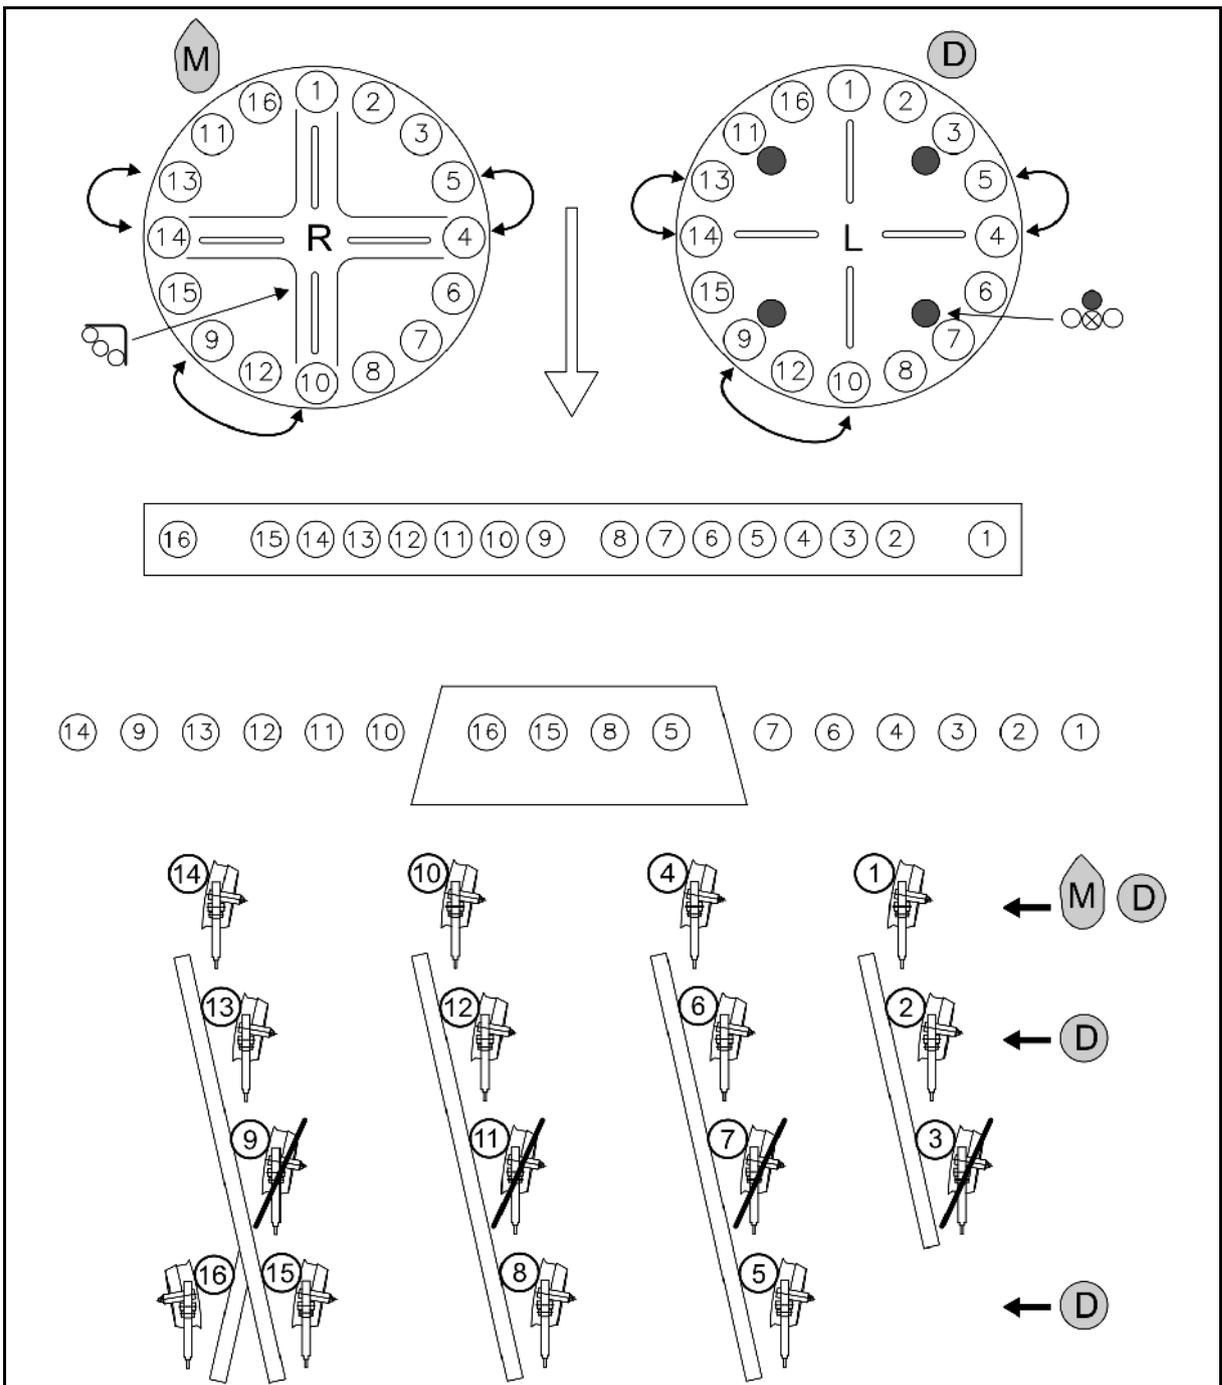

Fig. 39
- Maize ^M: Install the locking plates according to Fig. 39.
- Fertiliser ^D: Install the sealing plugs according to Fig. 39.